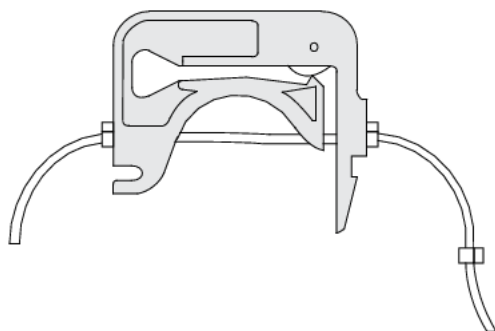

Figure 1 Peristaltic Pump Cassette
- 2 Using the peristaltic pump tubing, attach the tubing adapters and fasten them into the cassettes. Ensure that the tubing clips are embedded correctly, see Figure 1 on page 1.